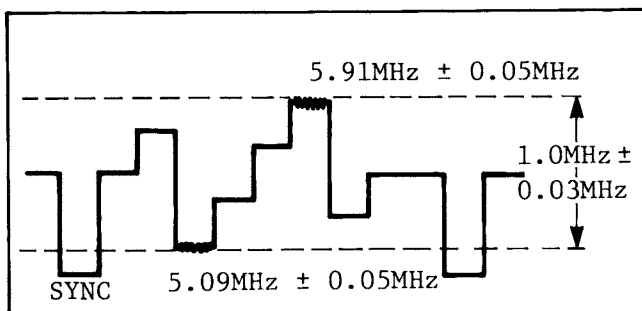

Fig. 12. I DEVIATION ADJUSTMENT
1. Remove the screw (A), then remove the VIDEO PROCESSOR P.C.B. (P-1). Connect extension cable between the VIDEO PROCESSOR P.C.B. (P-1) and connector in the unit.
4. Adjust VC2 (I REQ) and VR2 (I DEV) so that the frequency of the minimum I level is $5.09\text{MHz} \pm 0.05\text{MHz}$, and the frequency of the maximum I level is $5.91\text{MHz} \pm 0.05\text{MHz}$ and the deviation is $1.0\text{MHz} \pm 0.03\text{MHz}$, as shown in Fig. 12.